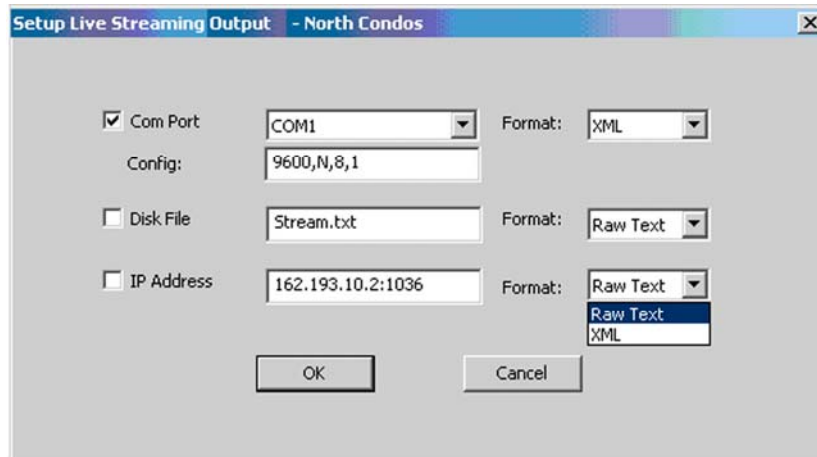

Figure 65
3. Go to the SYSTEM INFORMATION screen and click LIVE STREAMING to open the ‘Setup Live Streaming Output’ window (Fig 65).